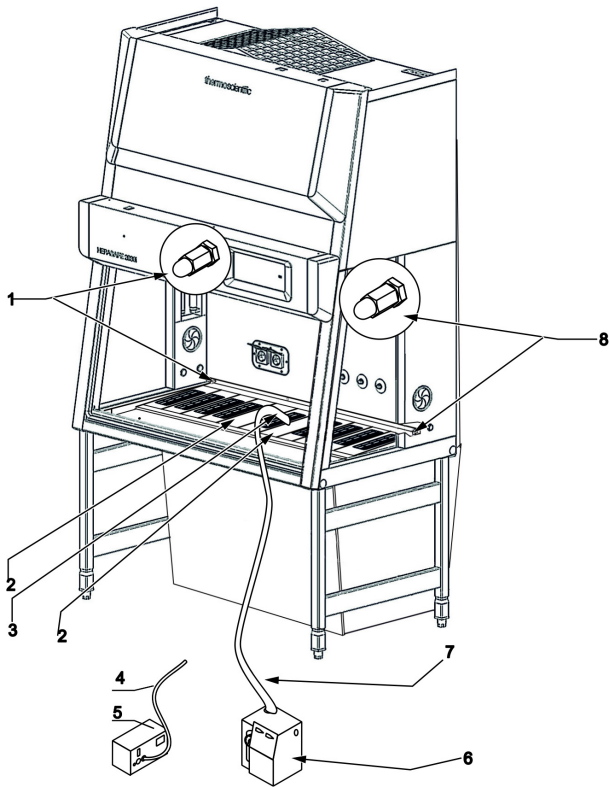

Figure 21. Testing the individual filters
8. **Figure 21:** Connect the connecting hose [4] of the particle counter [5] without dilution range to the supply connection [1]